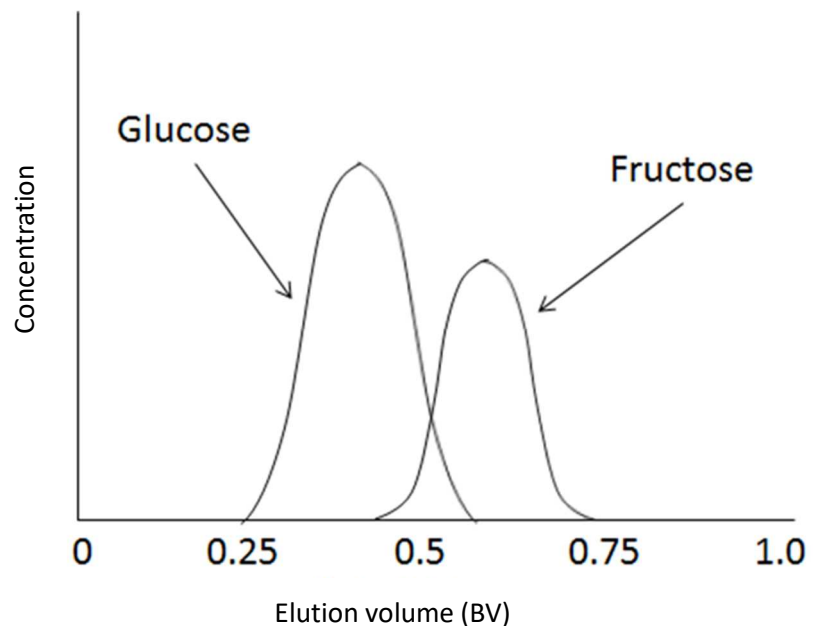

Fig. 3 Outflow pattern
- 3.8 Analyze each sample and plot an outflow pattern (Fig. 3).